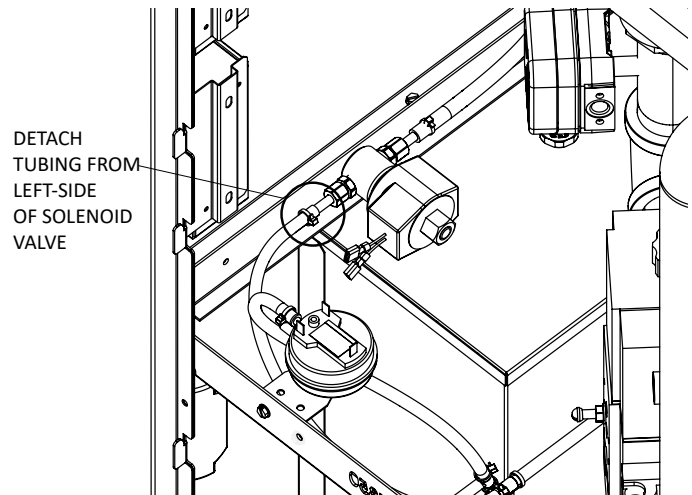

Figure 3. Detach Tubing from Solenoid Valve
9. Detach the flex tubing from the left-side of the solenoid valve. See **Figure 3**.